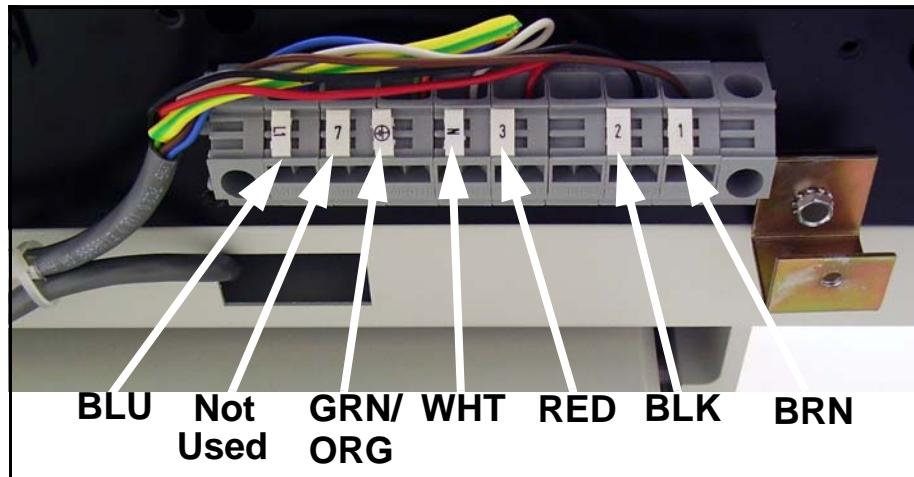
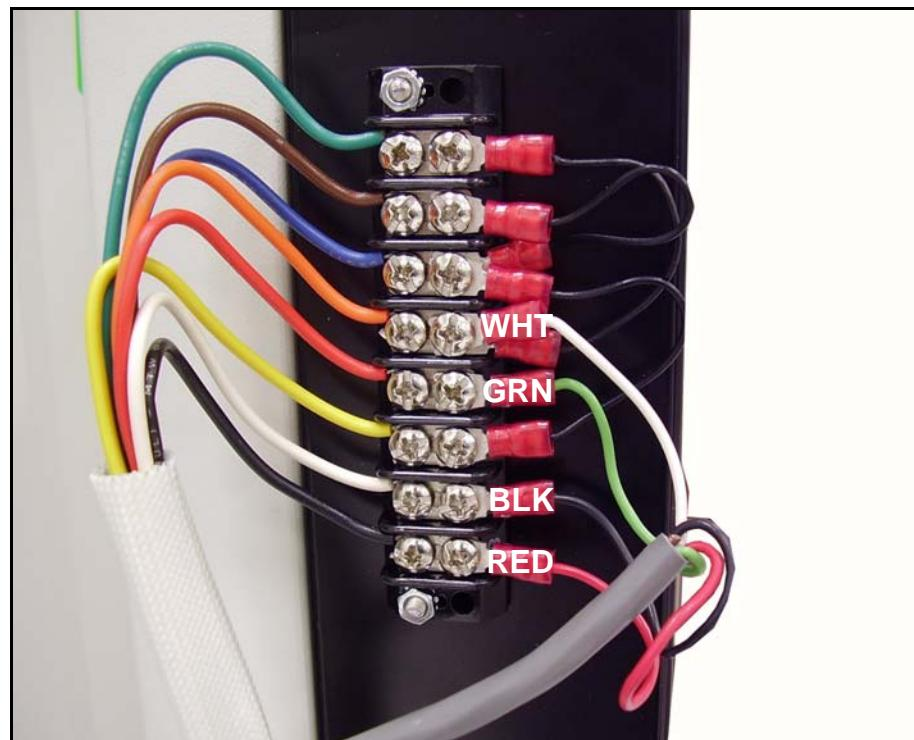

Figure 5-24. Bucky Wiring Diagram
Figure 5-25. PBL Wiring Diagram
- 47 Reverse steps to reassemble. See Figure 5-24 & Figure 5-25 for wiring information for PBL and bucky. Be sure to recheck alignment according to Chapter 2 when setting wallstand back up.